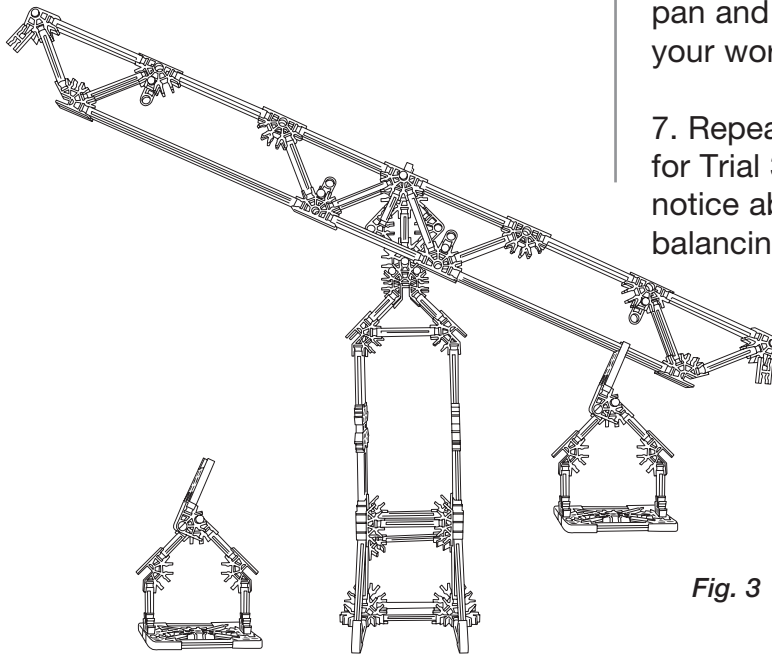

Fig. 3
2. Using masking tape, or dot stickers, label one hanging pan as the **effort** force pan (E) and one as the **load** force pan (L).
3. Slide the load force pan (L) into position approximately 3 cm from the end of the balance arm, as shown in Fig. 3.